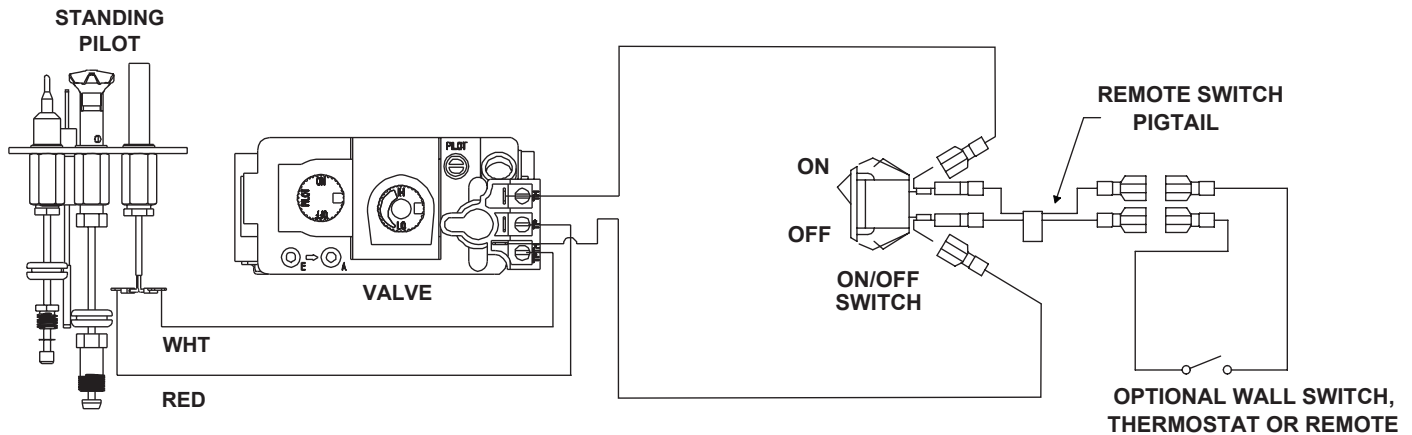

Figure 9.1 Standing Pilot Ignition Wiring Diagram
- If desired an additional wall switch or thermostat may be added to system as shown in Figure 9.1.